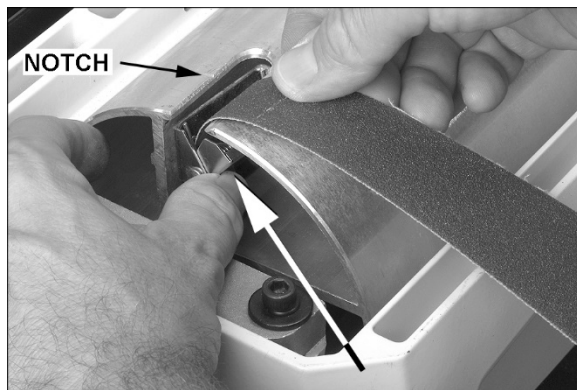

Figure 6-8
1. Press fastener lever (Figure 6-8) on outboard (left) end of drum and insert tapered end of abrasive through slit in fastener, as shown. Align tapered edge of abrasive strip with left edge of drum. Insert enough strip so that the right edge aligns with the reference notch; this will ensure the proper length of strip to be secured at the opposite end of the drum.